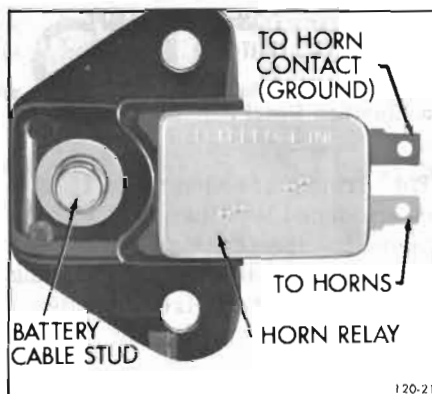

Figure 120-21—Horn Relay and Junction Block Assembly
2. If horns still do not stop blowing, unplug double connector from horn relay. See Figure 120-21. Then plug a known good relay onto the connector and make contact with junction block stud.